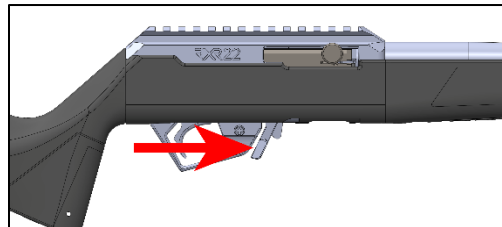

Figure 19
- Make sure your finger is away from the trigger and out of the trigger guard. While prepared to catch the magazine, push forward on the magazine latch and remove the magazine – Figure 19.